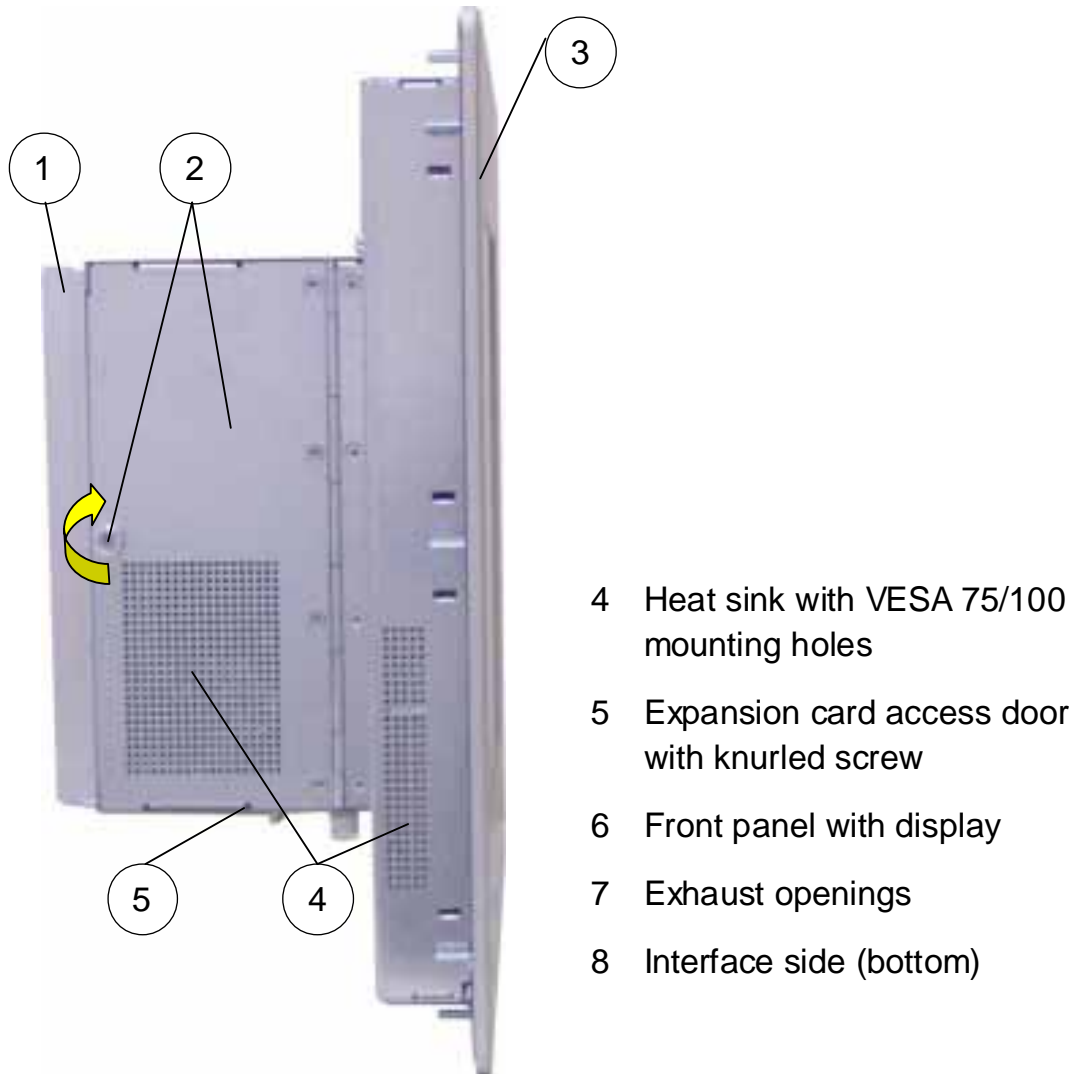

Fig. 7: Left side of V Panel Express
3. Loosen the knurled screw on the left side of the unit that secures the access door refer to *Fig. 7, pos 2*) and open the expansion card access door.